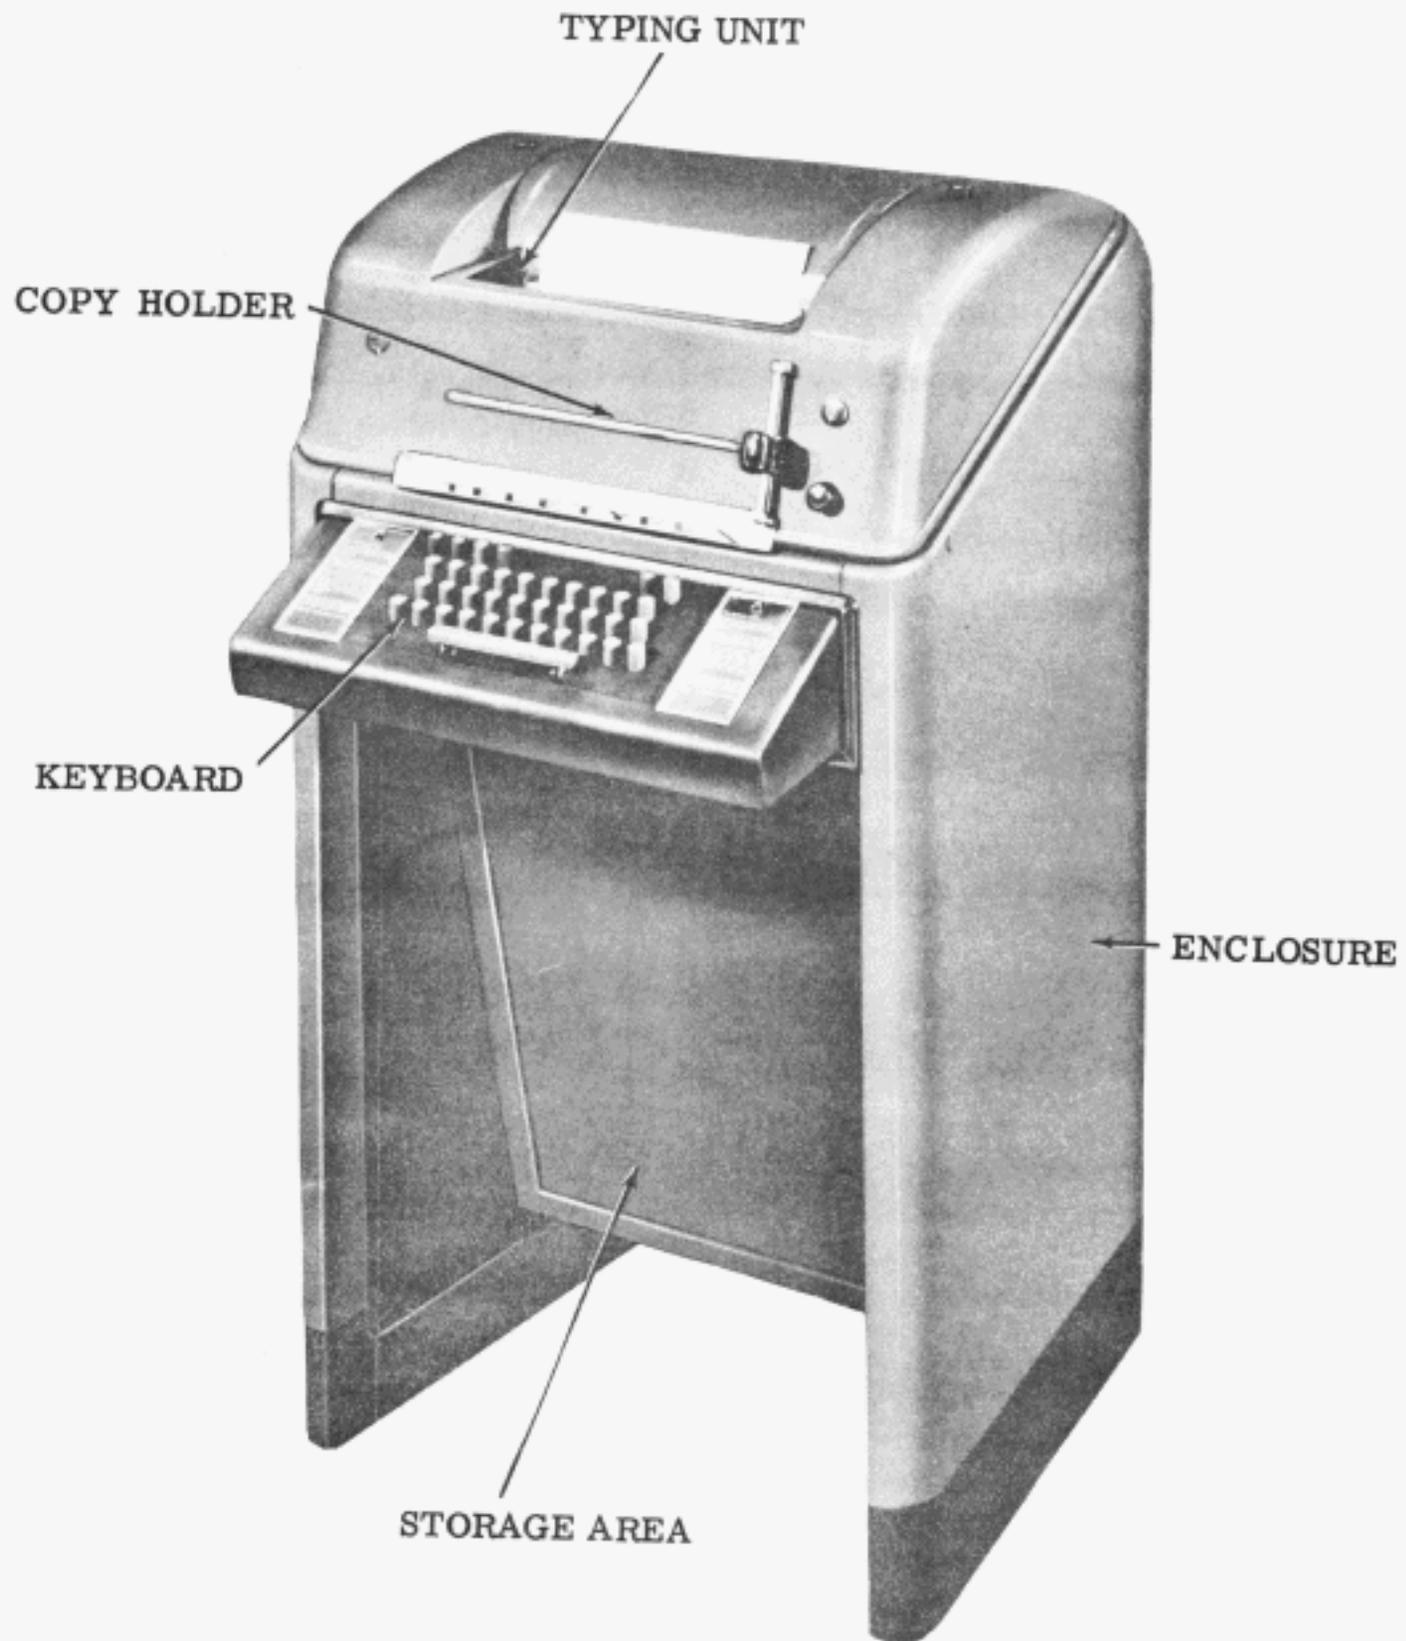

Figure 1 - Floor Model Keyboard Send-Receive (KSR) Teletypewriter Set
- (a) Floor Model Set - A floor-standing set with additional space for accessory equipment (Fig. 1).
### ENCLOSURES (Figs. 1 through 5)